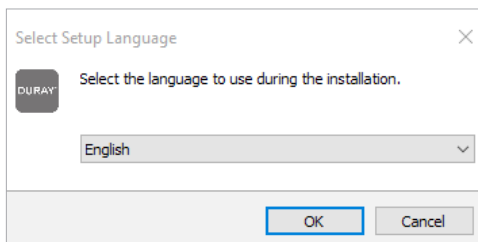

Figure 4
b) Select setup language, as shown in Figure 4: